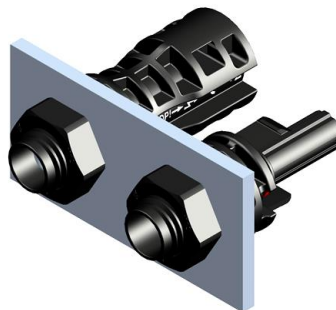

Figure 17
- ✧ 安装公/母面板连接器时，推荐用 2.0 Nm 的扭矩锁紧螺母。具体情况，需要由终端用户根据不同的面板验证合适的扭矩(如图 17)。
When installing the male or female panel connector, it is recommended to use 2.0 Nm torque lock nut. The appropriate torque has to be verified in the end use according to the respective housing (Fig.17).